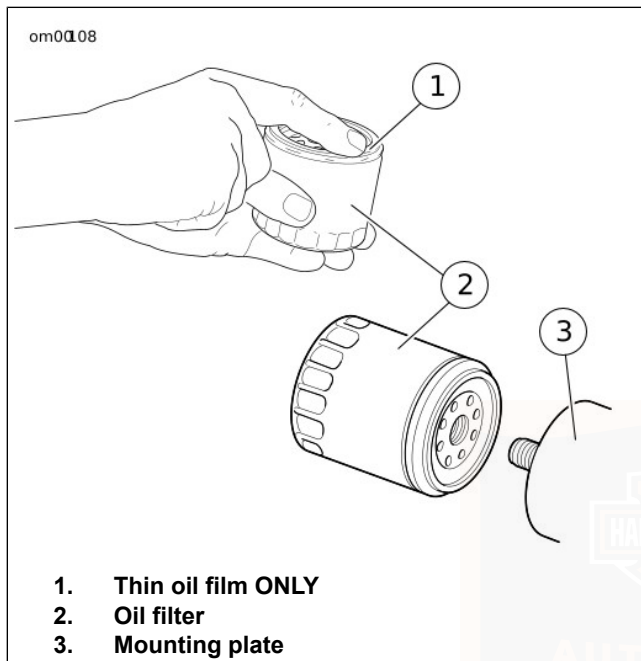

Figure 43. Applying Thin Oil Film
8. See Figure 43. Lubricate gasket with clean engine oil and install **new** oil filter on filter mount. Hand tighten oil filter 1/2-3/4 turn after gasket first contacts filter mounting surface. Do not use OIL FILTER WRENCH (PART NUMBER: HD-42311) for oil filter installation.